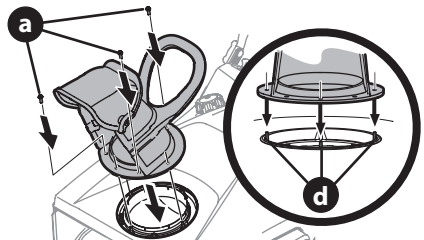

Figure 8
3. Align the holes in the chute base with the three tabs (d) in the lower chute (Figure 8, Inset). Secure the chute base with the hex washer screws (a) removed in Step 2 (Figure 8).